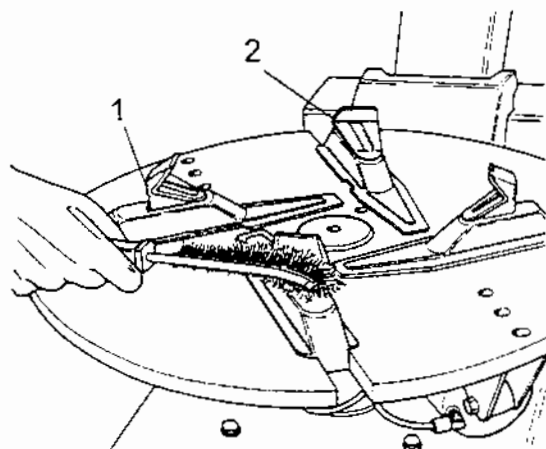

Fig.28
C. Weekly clean the teeth of the clamps (1) with a wire brush, check the nylon clamping jaw insert and (2) replace if worn (Fig.28).